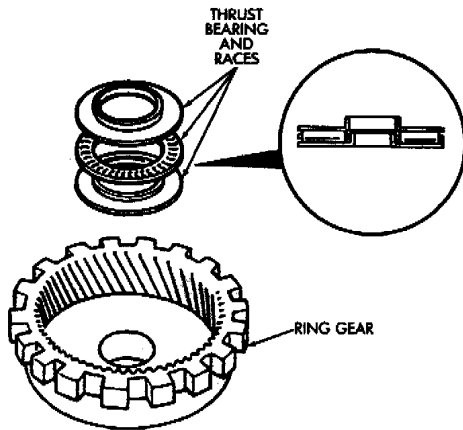
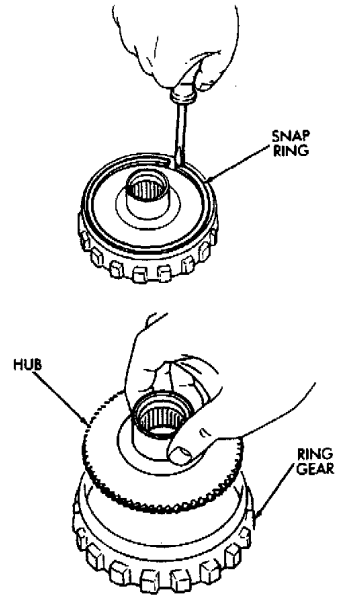

Fig. 10 Removing/Installing Ring Gear Thrust Bearing And Races
Fig. 11 Removing/Installing Ring Gear Hub
- (10) Remove thrust bearing and washers from ring gear (Fig. 10).
- (11) Remove ring gear snap ring and remove ring gear hub (Fig. 11).
- (12) Inspect and replace any worn or damaged planetary gear components.
- (1) Install hub and snap ring in ring gear (Fig. 11)
- (2) Identify ring gear thrust bearing and races races by following dimensions:
- Outer diameter of bottom race (Fig. 10) is 44.8 mm (1.764 in); inner diameter is 27.6 mm (1.087 in).
- Outer diameter of bearing (Fig. 10) is 44.7 mm (1.760 in); inner diameter is 30.1 mm (1.185 in).
- Outer diameter of upper race Fig. 10) is 44.8 mm (1.764 in); inner diameter is 28.8 mm (1.134 in).
- (3) Lubricate ring gear thrust bearing and races with petroleum jelly and install them in ring gear (Fig. 10).